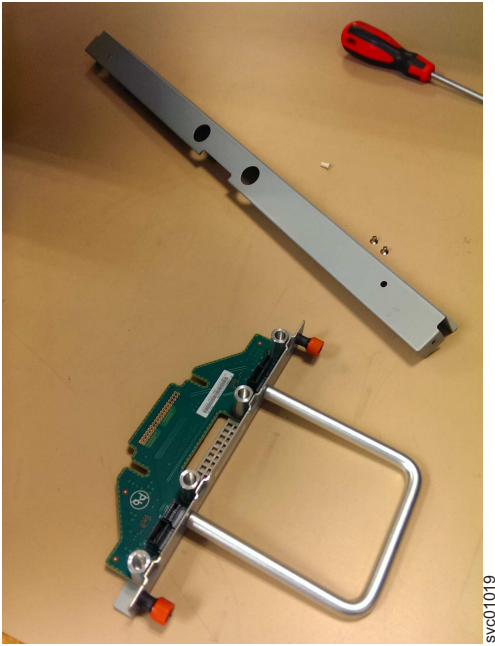

Figure 88. FIB parts removed from the chassis
4. Place the FIB (shown in Figure 88) in a safe location.